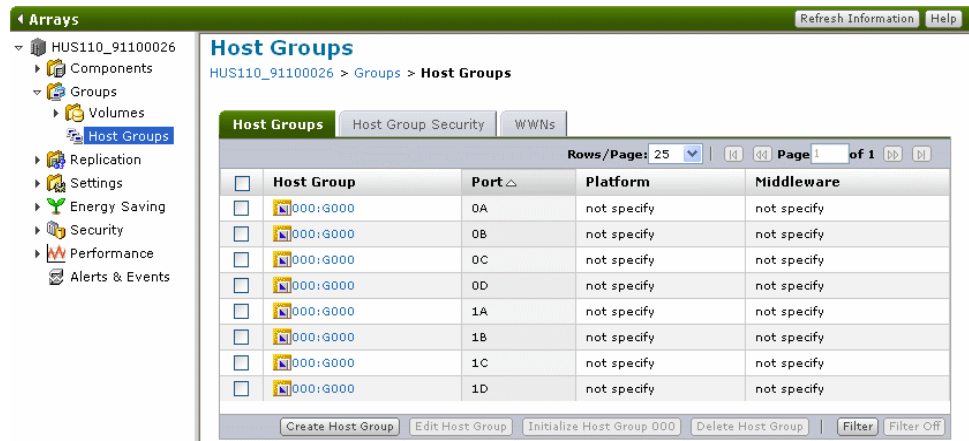

Figure 6-27: Host Groups window
To understand the host group configuration environment, you need to become familiar with the Host Groups Setting Window as shown in Figure 6-27.
3. Expand the **Groups** list, and click **Host Groups**. The **Host Groups** window appears (see Figure 6-27).